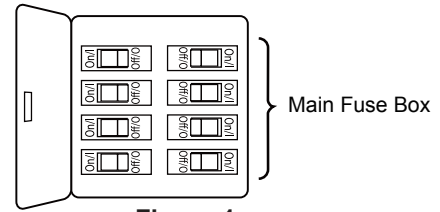
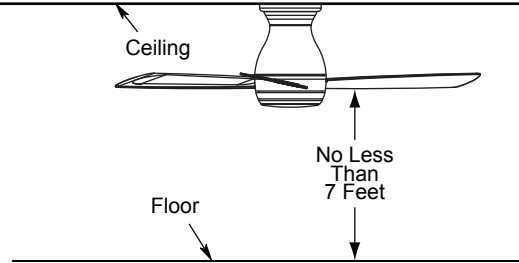
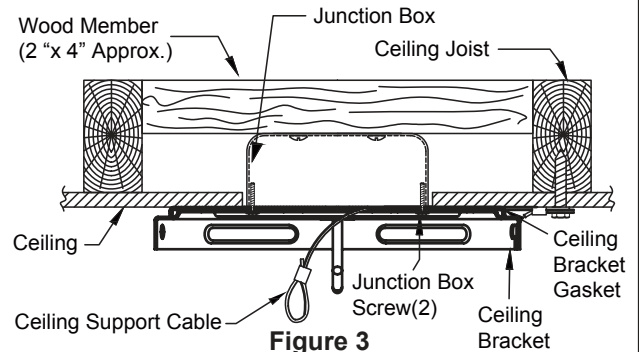

Figure 1
Figure 2
Figure 3
Your new ceiling fan will require a grounded electrical supply line of 120 volts AC, 60 HZ, 15 Amp Circuit. Electrical code requires use of a fan-rated outlet box to support the extra weight and motion associated with a ceiling fan. A fan-rated box will be labeled as such and typically supports up to a 70lb ceiling fan. Fan-Rated Outlet Boxes vary in ratings and design. Ensure the ratings of your ceiling fan outlet box meet the requirements for the ceiling fan being installed. Figure 1, Figure 2 and Figure 3 depicts different structural configurations that may be used for mounting the outlet box.
## Low profile box (Figure 1)
## Deep box (Figure 2)
### Deep box with brace (Figure 3)
To avoid possible electrical shock, be sure electricity is turned off at the main fuse box before hanging. (Figure 1) **NOTE:** If you are not sure if the outlet box is grounded, contact a licensed electrician for advice, as it must be grounded for safe operation.
The fan must be hung with at least 7' of clearance from floor to blades. (Figure 2)
1. Using the 3/8 " x 2 " lag bolt and flat washer, attach safety cable to ceiling joist or wood structural member. The lag bolt will pass through the flat washer, safety cable loop, and into the building structure (Figure 3). You will first drill a 1/4 " pilot hole into the building structure to prevent splitting or cracking.
2. The ceiling support cable need to through the center hole of ceiling bracket when mounting. Using the two #8-32 screws and washers securely attach the ceiling bracket gasket and ceiling bracket to ceiling junction box as shown. (Figure 3)
1. Assemble the motor assembly to ceiling bracket using the previously removed screws and securely tighten all screws. (Figure 1)
2. Push the canopy trim ring up to conceal the screws, such that the mounting tabs seat into the dimpled grooves in the ceiling bracket midway between the screws. (Figure 2)
2. Assemble the light kit assembly to the support bracket using the two key slots in the light kit assembly. Replace the third screw and securely tighten all three screws. (Figure 2)
3. Remove one of the three screws in the light kit assembly and retain the screw for Step 5. Slightly loosen the remaining two screws. (Figure 3)
- 2. Restore electrical power to the outlet box by turning the electricity on at the main fuse box. (Figure 2)
- 3. To make fan operational, install 23A/12V battery (included) in hand-held remote transmitter, with fan power off. Then follow the remote code setting process. (If not used for long periods of time, remove battery to prevent damage to transmitter). Store the remote away from excessive heat or humidity. (Figure 3)